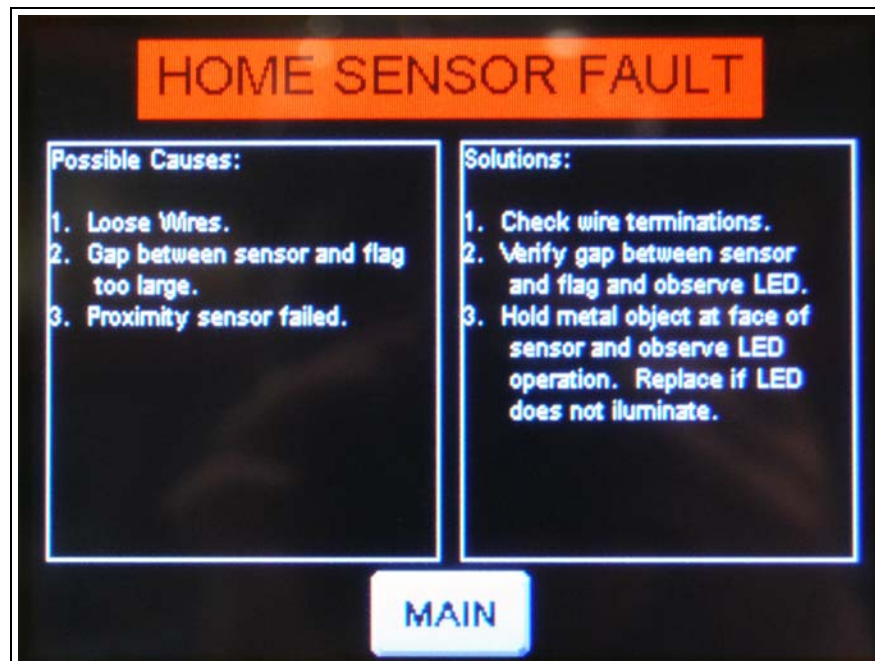

Figure 3E Home Prox Fault Screen
**Home Prox Fault:** Displays the “Home Sensor Fault” screen which offers possible causes and solutions to faults caused by a proximity switch failure (See Figure 3E on Page 33.)